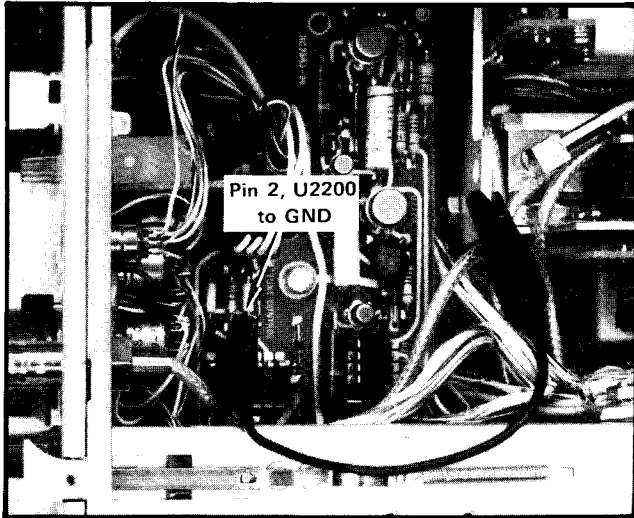
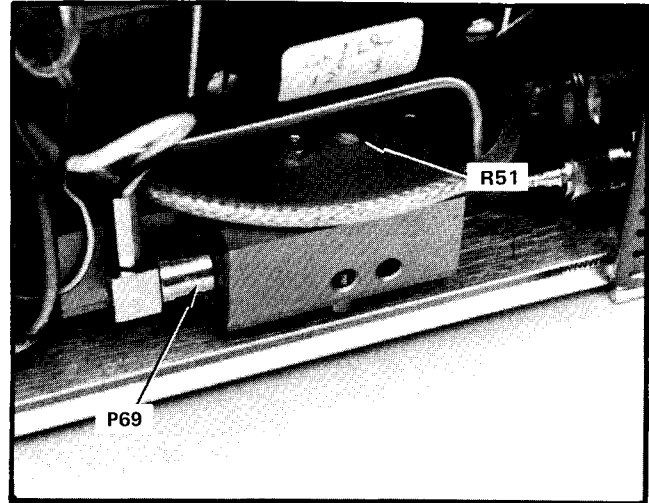

Fig. 4-5. Grounding strap connected to pin 2 of U2200.
Fig. 4-6. Location of P69 and R51 on Hybrid Assembly A50.
a. Switch the 7L13 into phase locked mode by setting the **FREQ SPAN/DIV** to 50 kHz and switch the **AUTO PHASE LOCKED** switch on. Ground pin 2 of U2200 on the tune control circuit board, with a jumper strap (Fig. 4-5). Remove P69 (Fig. 4-6) from the hybrid assembly A50.
c. Adjust R51, (Fig. 4-6) so the dc reference level of the error signal is 0 volt.